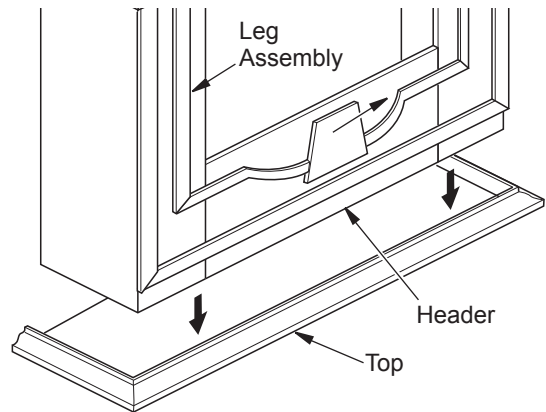

Figure 5 - Placing Mantel Assembly onto Mantel Top
- Turn top (#7) and leg assembly upside down on soft surface. Place header/leg assembly inside top (see Figure 5).
- Make sure mantel is centered left to right inside top and rear of legs are flush with back of top. Gap between mantel top and leg should be the same from front to back (see Figure 5).